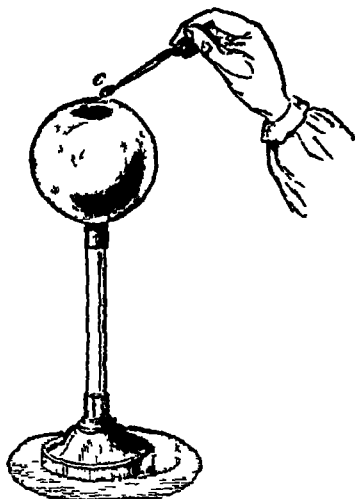

FIG 177
**The electrification is on, or near, the outer surface of a conductor**—When a hollow insulated conductor with an aperture, is charged positively or negatively (fig 177), a proof-plane, *c*, can collect a charge from the exterior, but not from the interior